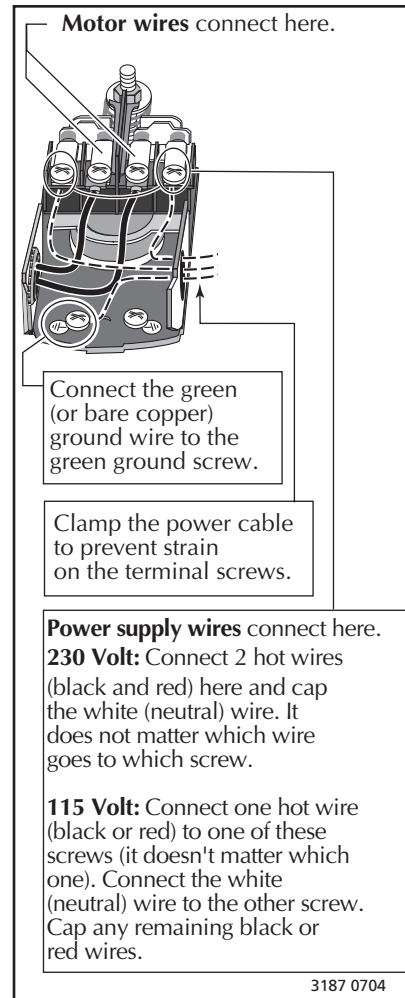

Figure 13: Pressure Switch
1. Connect the ground wire first as shown in Figure 13. The ground wire must be a solid copper wire at least as large as the power supply wires.
4. Connect the power supply wires to the pressure switch as shown in Figure 13.